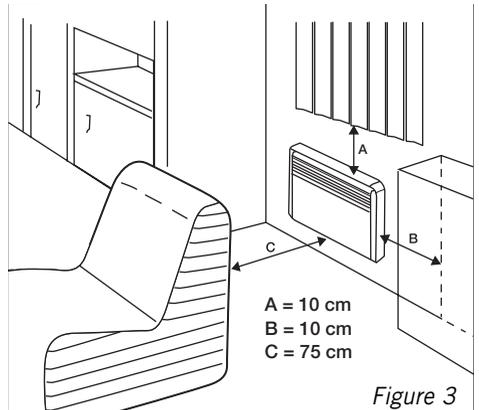

Figure 3
2. Select a suitable location to mount the heater, ensuring that it is at least 10cm below any curtains or window furnishings, 10cm from any furniture located to either side, and 75cm from any furniture placed in front of the heater, as shown in figure 3.